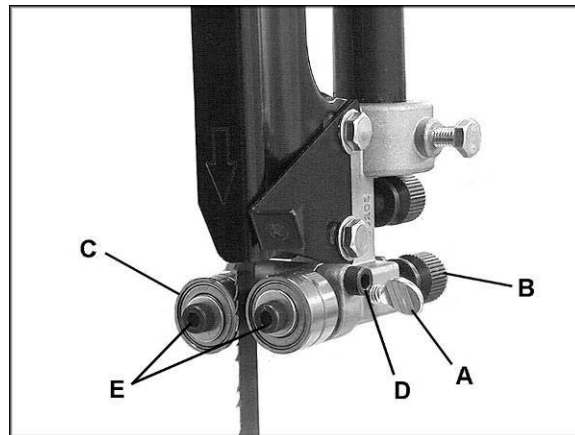
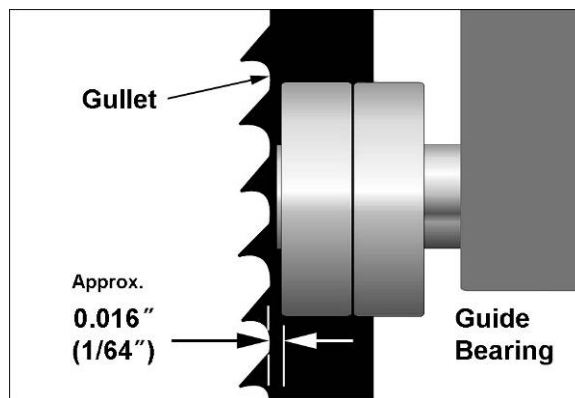

Figure 47
Figure 48
Refer to Figures 47, 48, 49.
- Loosen thumb screw (A, Figure 47) and move guide block by turning knob (B) so that the front of the guide wheels (C) are just behind the gullet (curved area at base of tooth) of the blade, as shown in Figure 48. This distance is usually about 0.016" (or 1/64").
- Tighten thumb screw (A, Figure 47).
- Loosen the socket screw (D) and turn the screw (E) on each guide wheel to move the guide wheels about 0.004" from the blade. (A quick way to set this distance is to place a crisp dollar bill, which is approximately .004" thick, between guide wheel and blade, and move the guide until it just contacts the bill.)
- Tighten socket screw (D) when adjustment is satisfactory.